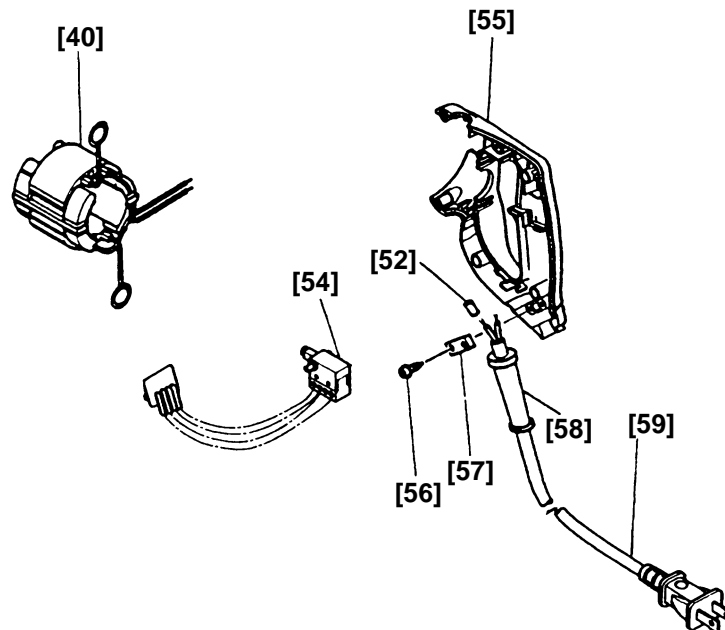

Fig. 9
(7) Removal of Handle (C) [55] and Switch [54] (Fig. 9)